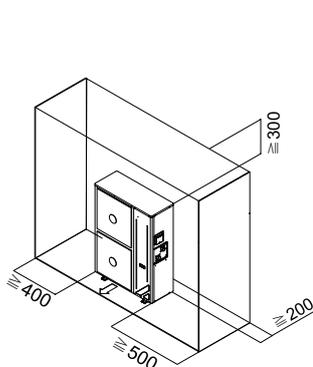

Figure 5
- Obstacles exist at both sides and the air inlet side (see Figure 5).